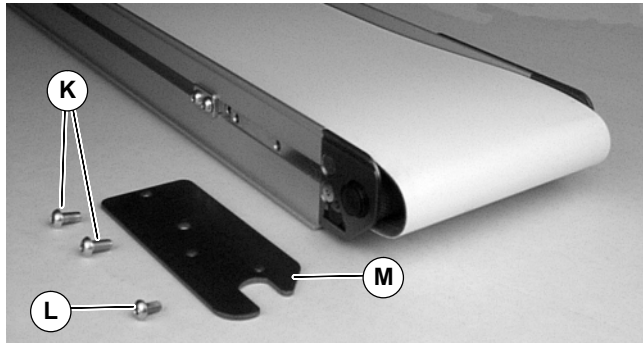

Figure 8
4. Remove screws (K & L of Figure 8). Remove and discard existing cover plates (M).